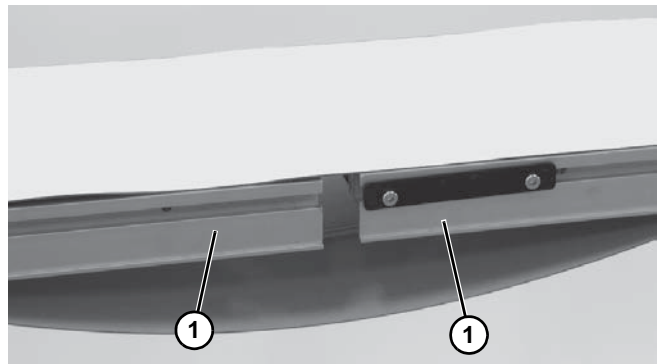

Figure 7
3. Roll out conveyor belt and place conveyor frame sections (**Figure 7, item 1**) into belt loop.